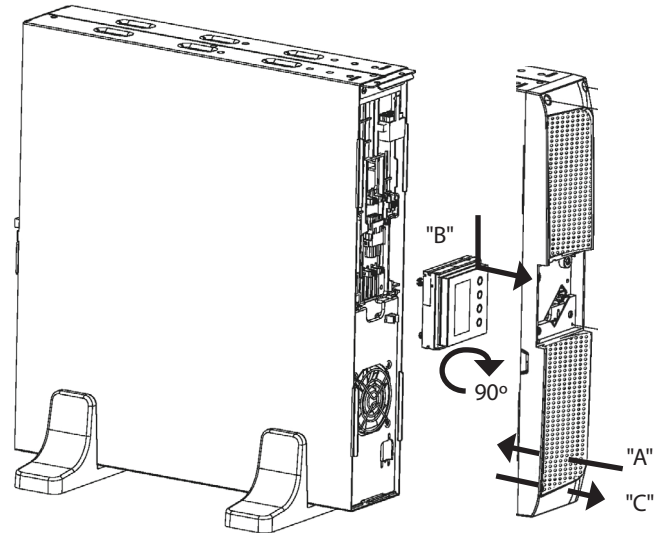

Fig. 5. Rotation of control panel with LCD over the front cover.
- To make easier the message reading when the equipment is vertically installed, it is advisable to rotate 90° clockwise the control panel with LCD (see figure 5).